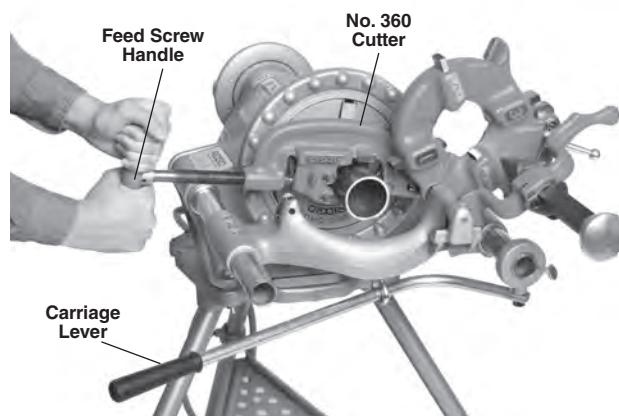

Figure 21 – Cutting with No. 360 Cutter
4. With both hands, grasp the pipe cutter feed handle (*Figure 21*).